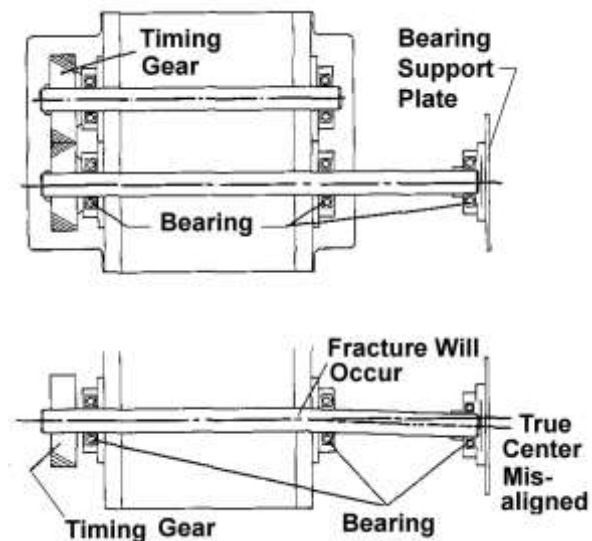

Fig.20 *Bearing Alignment*
6. **CAUTION:** During this step make sure that all three bearings on the blower input shaft **A** are in line with one another. **Fig.20 Bearing Alignment**